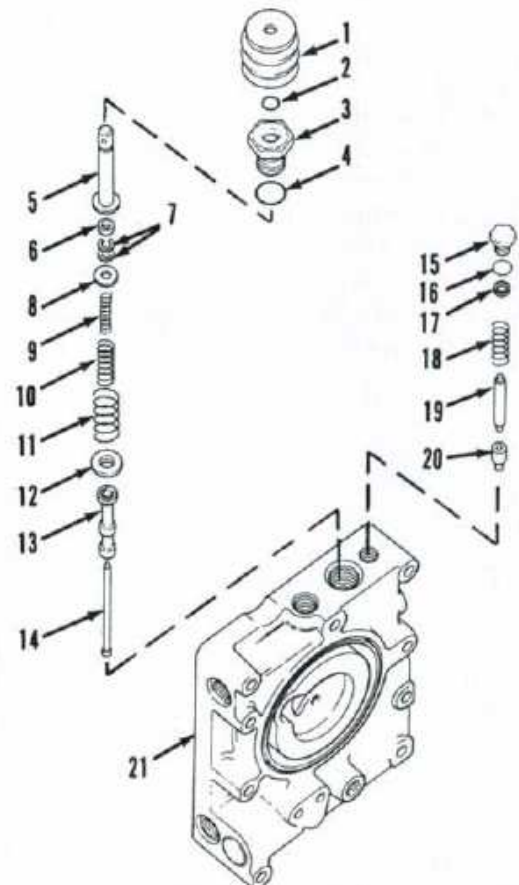

Fig. 150—Exploded view of pto control spool and regulator valve.
Move the control lever forward until the pto spool moves downward 0.39-0.43 inch (10-11 mm) (initial engagement position). Pressure reading should be 41-46 psi (283-317 kPa). Record the gage reading, then move control lever fully rearward to disengaged position. Move control lever fully forward to engaged position. Gage reading should be 260-270 psi (1790-1860 kPa). If initial engagement pressure is low but the full engagement pressure is correct, remove the pto spool assembly. See Fig. 150. Inspect the spool lands and if in good condition, add a shim (7). Each shim will increase the initial engagement pressure 3 psi (21 kPa).